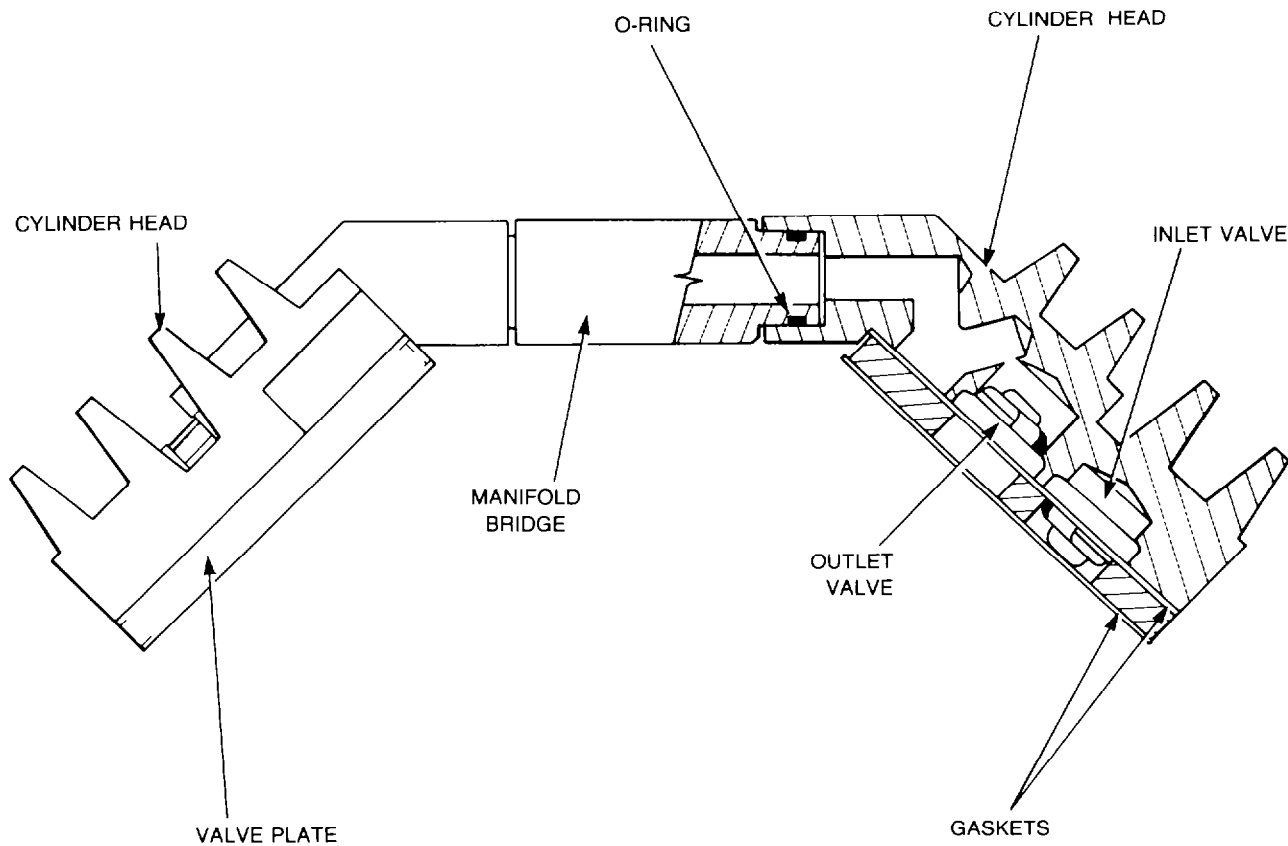

Figure 9 — Manifold Bridge — Installation
- f. Install two new O-rings onto the manifold bridge and fit the cylinder heads to the ends (see Fig. 9). Fit the inlet and exhaust valves in the head and retain in position by the new gaskets and valve plate. Install the cylinder heads complete with the manifold bridge.